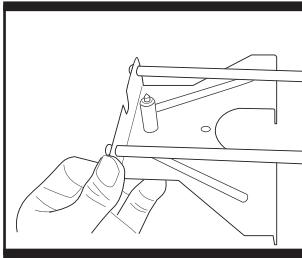
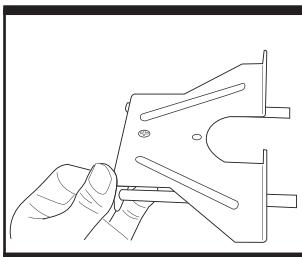

Fig. 9
Fig. 10
7. FITTING THE CENTRING PIN AND MAKING CIRCULAR CUTS (Fig. 9 & Fig. 10)